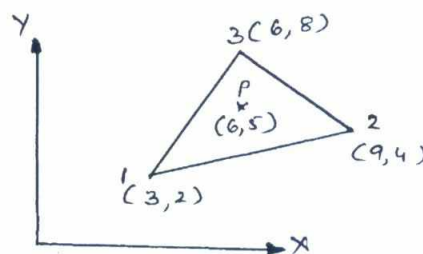

Fig. Q3(b)
- Find the shape functions at point P for the CST element shown in Fig. Q3(b). Also find the area and Jacobian matrix for the element. (08 Marks)